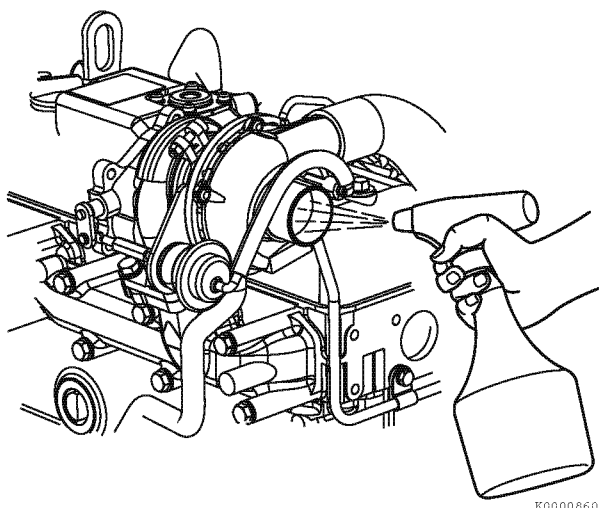

Figure 10-6
2. While the engine is operating at normal load (75 - 80 % of maximum), slowly and evenly spray 2 - 3 oz (60 - 90 cc) of blow clean fluid over a period of ten to fifteen seconds into the air inlet (**Figure 10-6**).